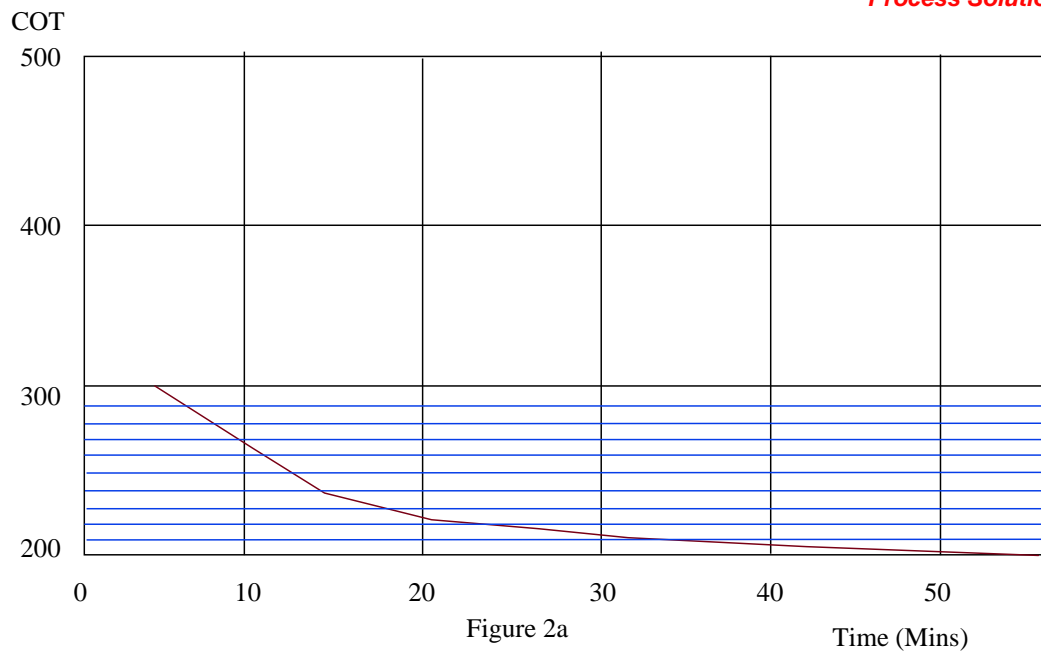

Figure 2a
- Fig 2a and 2b show the results of tests carried out on the same heater. The fuel gas flow change was 40m³/h. Calculate dynamics using the 80/20 method, comment on results